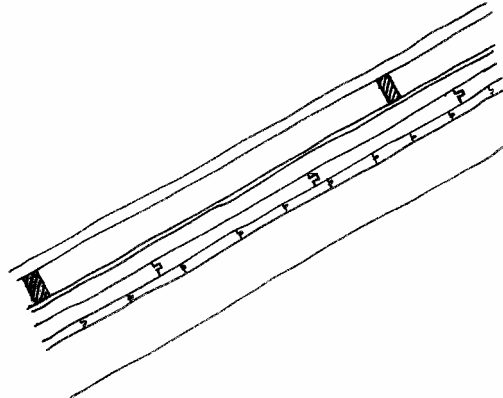

Figure 10.43 – Counter battens ensure continuous insulation
- ❖ **Nail purlins on every alternate rafter.** *Fig10.43*